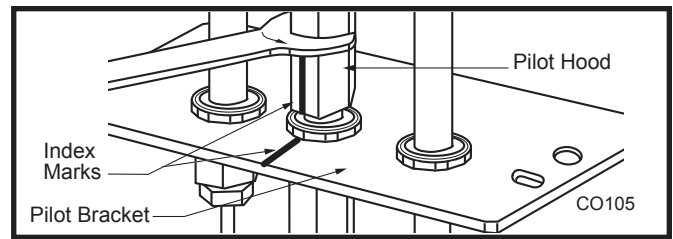

Fig. 67 Removing pilot hood.
1. Loosen pilot hood turning counterclockwise using a 7/16" end wrench. (Fig. 67)